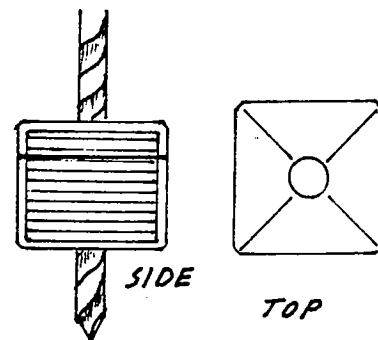

FIGURE 1
Step 1 - Take that empty plastic roll-on deodorant bottle. Here's the tough part, take a screwdriver or a knife and pry off the section that has the roller ball in it. It has to come off, they fill the little bottle and then press this section on to it. You should end up with something that looks like Figure 1.
I made a little drilling guide out of a micromount box so that I can drill a big stack of squares at once (see Figure 1).